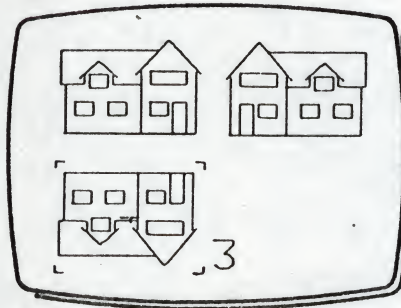

Fig 3
- 12 Plant the house as (3) in Fig 3. The house is now a mirror image of (1) about the horizontal axis.